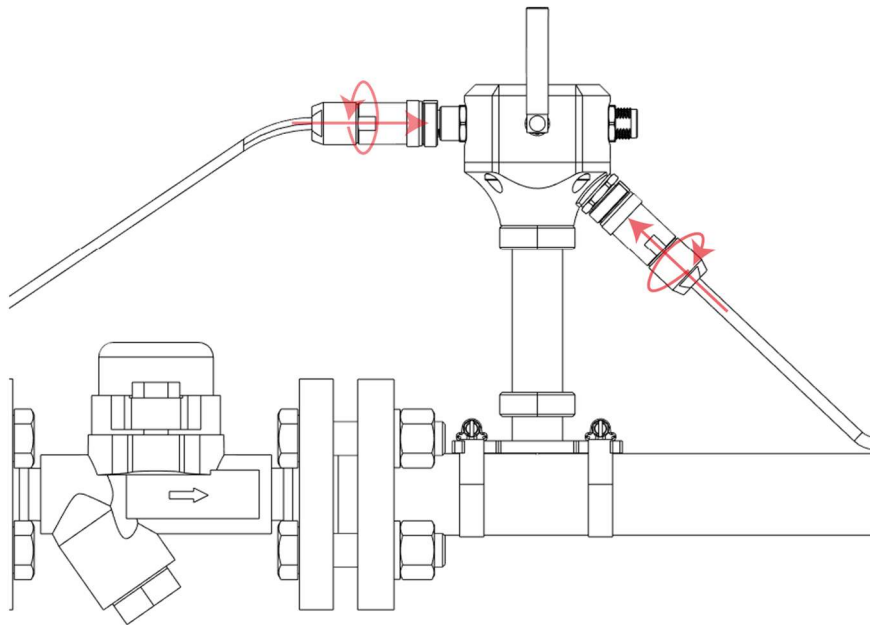

Figure 9.- Temperature sensor connection to the LeakSense/TempSense module
1. Inspect the input temperature sensor connector (4)(5) and the temperature sensor cable (10)(11) to be inserted for any obvious signs of damage or deterioration.
2. Insert and screw the temperature sensor cable (10)(11) connection male to the temperature sensor connector (4)(5) available in the IIoT Wireless module (Figure 2), as can be shown in Figure 9.